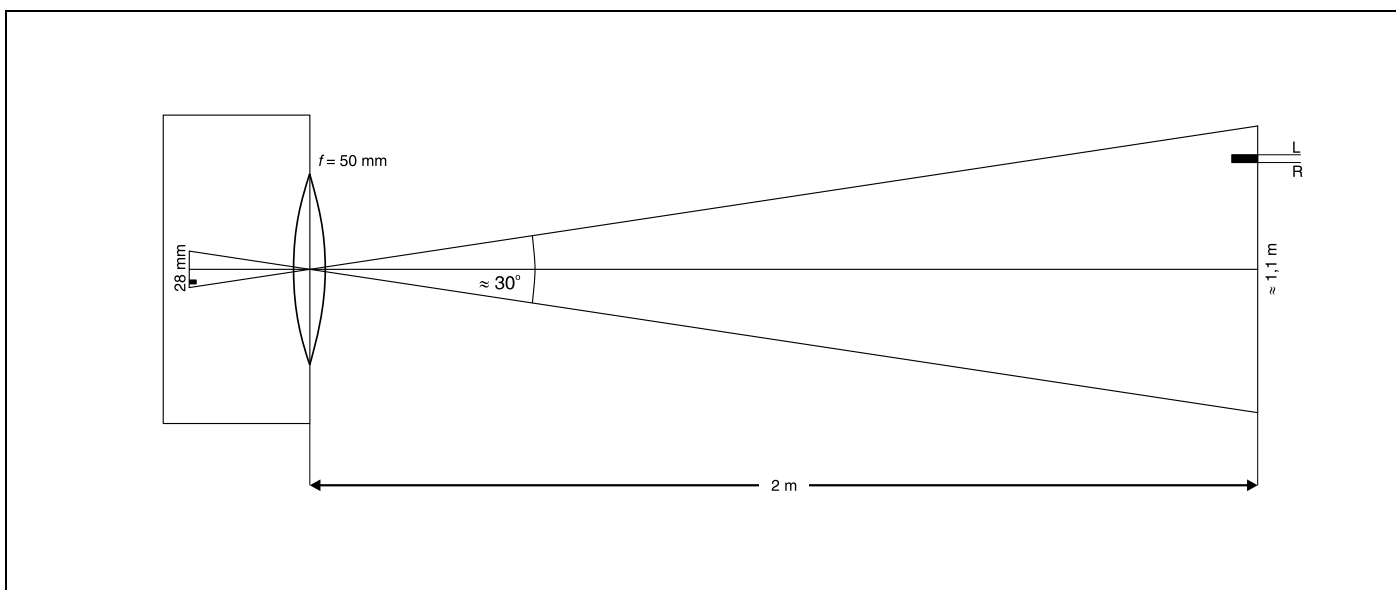

Fig. 4
When motions are to be recorded (see Fig. 4), the camera looks for the reflections of the retroreflecting foil (see also section 3.3). When these are detected, their number, their maximum width in % and their position are displayed in the VideoCom LC display ⑦. The f-stop of the lens should be set to the smallest setting, and the lens focus set to infinity (this is usually sufficient due to the great depth of focus). The following procedure has proven most effective for further adjustment: